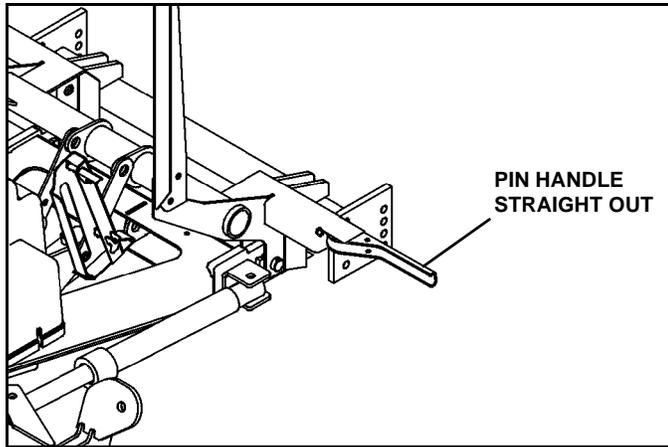

Figure 1-25
6. Push pin handles toward truck to unlock main pins. (See Figure 1-25).